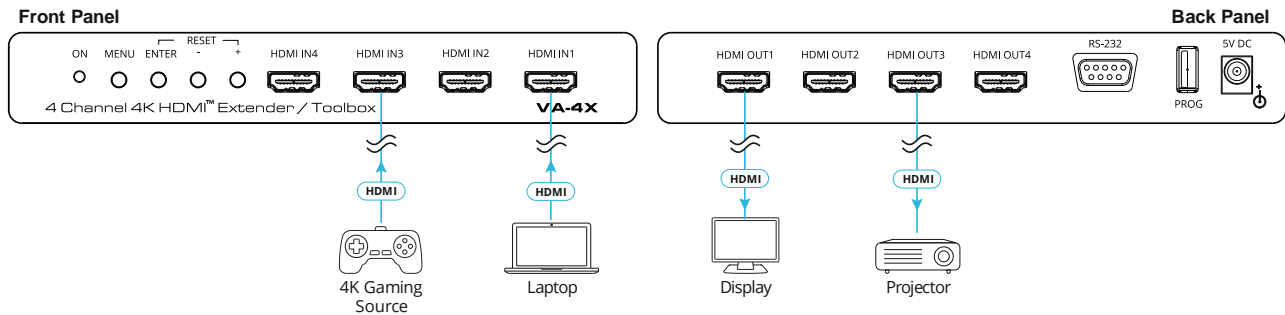

Figure 2: Connecting to the VA-4X Rear Panel
To connect the VA-4X as illustrated in the example in Figure 2:
1. Connect up to 4 HDMI sources (for example, 4K gaming sources, laptop) to the HDMI IN Connectors (1 to 4) (6).
2. Connect up to four HDMI acceptors (for example, display, projector) to HDMI OUT Connectors (1 to 4) (7).
3. Connect the power adapter to the VA-4X and to the mains electricity (not shown in Figure 2).